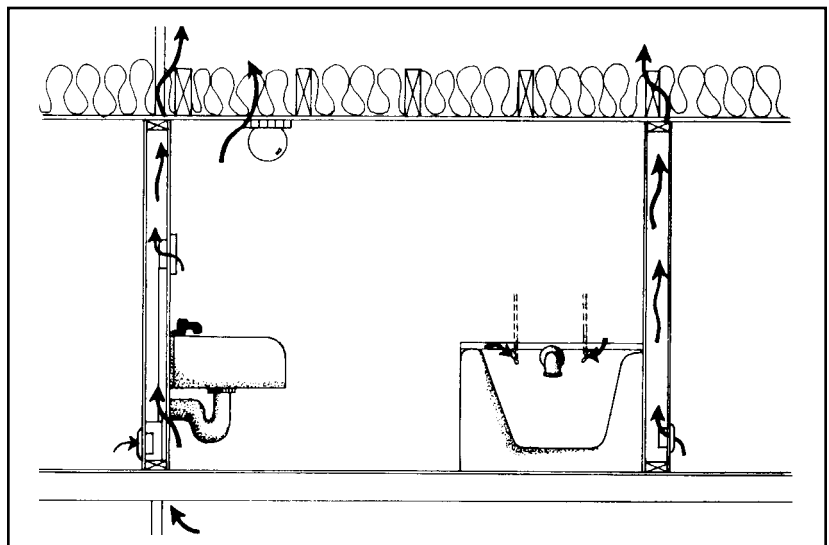

Figure 3. — Attic bypasses from the bathroom.
**Attics** Attic bypasses are passageways where warm air escapes from the house into your attic. If water vapor escapes to the attic and is trapped there, it may condense on surfaces and freeze during cold weather. When it thaws, the water may damage ceilings and walls and contribute to humidity problems. Bypasses can allow enormous amounts of warm, moist air to leak into the attic (Figure 3). These include plumbing chases, spaces around chimneys, up interior walls, and around light fixtures. Sealing them can save on winter heating expenses while preventing moisture damage.